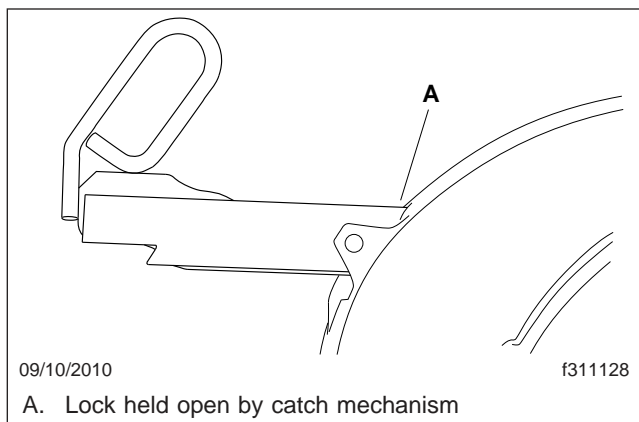

Fig. 18.7, Jost Release Handle Unlocked
2. Open the kingpin locks. See **Fig. 18.7**.
- 6.3 **Jost:** Pull the retractable handle out, then secure it in the open position with the catch. See Fig. 18.7.